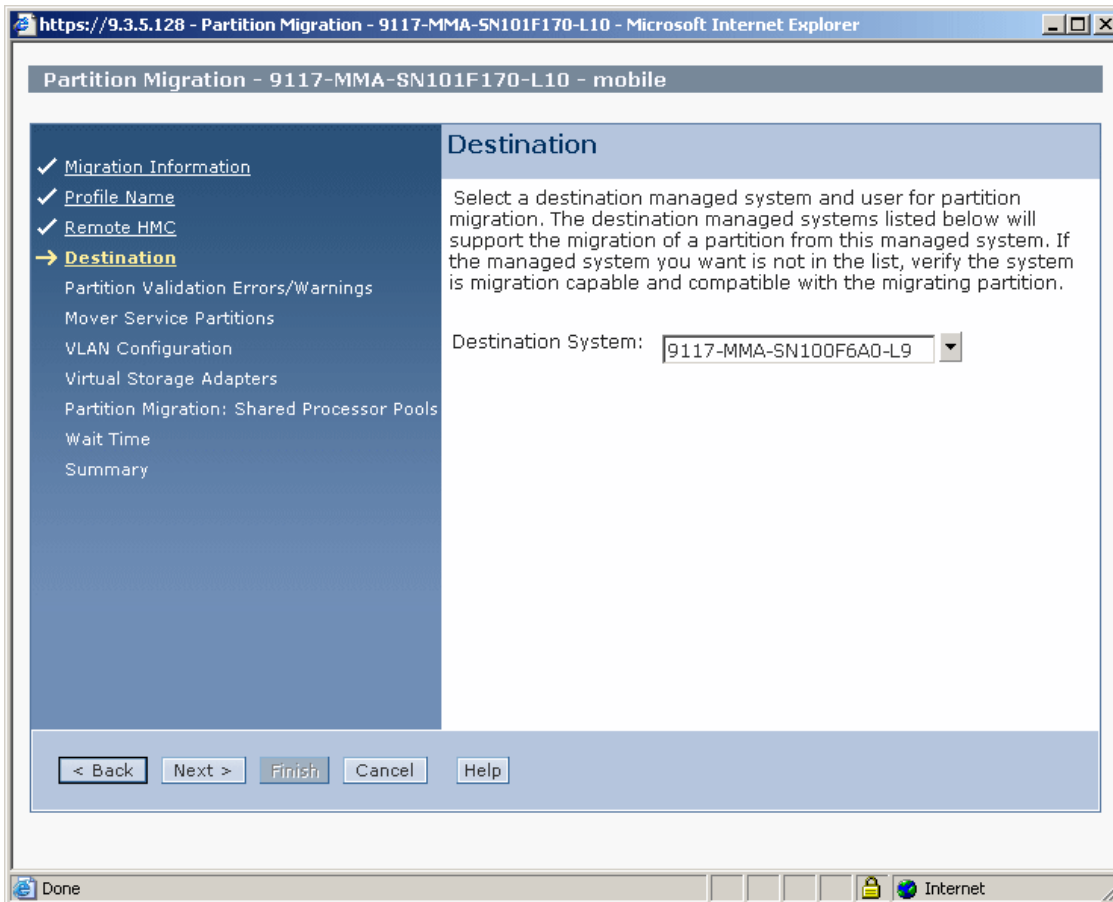

Figure 14-12 Selecting the destination system
7. Select the destination system and click **Next** as shown in Figure 14-12.